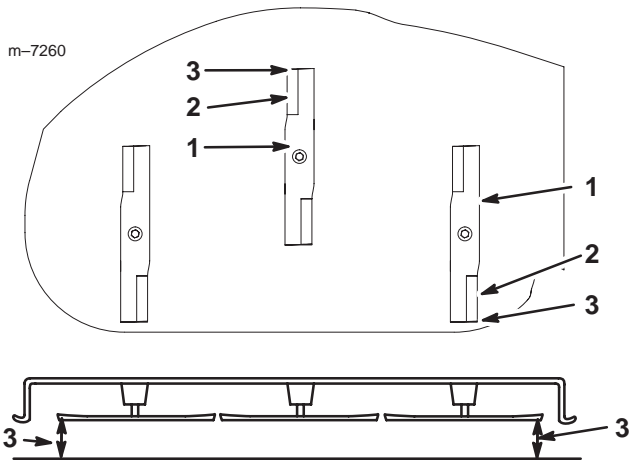

Figure 41
8. Set the height-of-cut at position **D** [3 inch (76 mm)] and carefully rotate the blades so they are facing front to rear (Fig. 41).
9. Measure from the tip of the front blade to the flat surface and the tip of the rear blade to the flat surface (Fig. 41). If the front blade tip is not 1/16–5/16 inch (1.6–7.9 mm) lower than the rear blade tip, adjust the front locknuts.